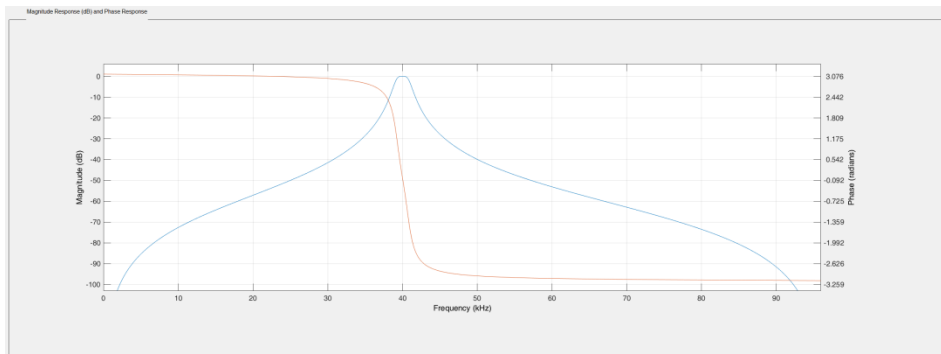

Figure 3: Magnitude and phase response of used BP filter
6. BP Filter – Not configurable. Applies the bandpass filtering to DAS beamformer output. Magnitude and phase response of used filter consisting of 2 Second Order Stages (SOS) is shown in Figure 3. The filter uses floating point arithmetic.